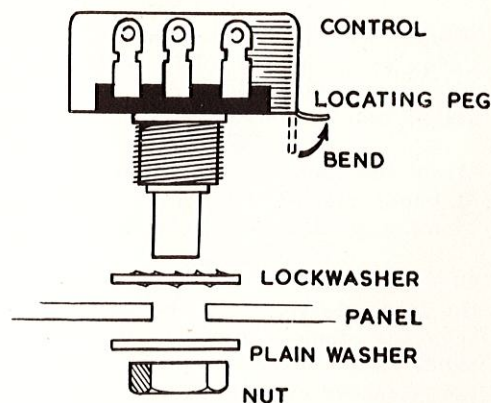

FIGURE 1
Refer to Pictorial 1 and Figure 1 for the following steps:
- () Refer to Figure 1 and bend down the locating peg on all the controls except the 7.5 megohm pre-set controls.